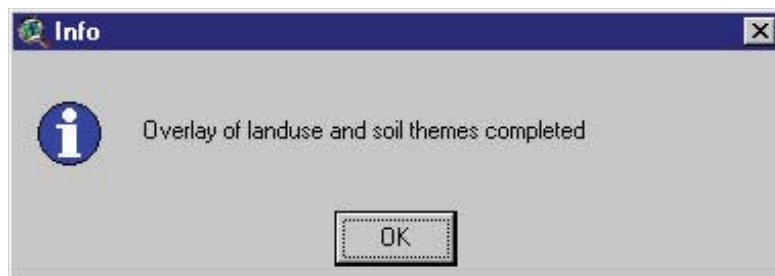

Figure 6.50
2. A message box signals the end of the overlay process (Figure 6.50)